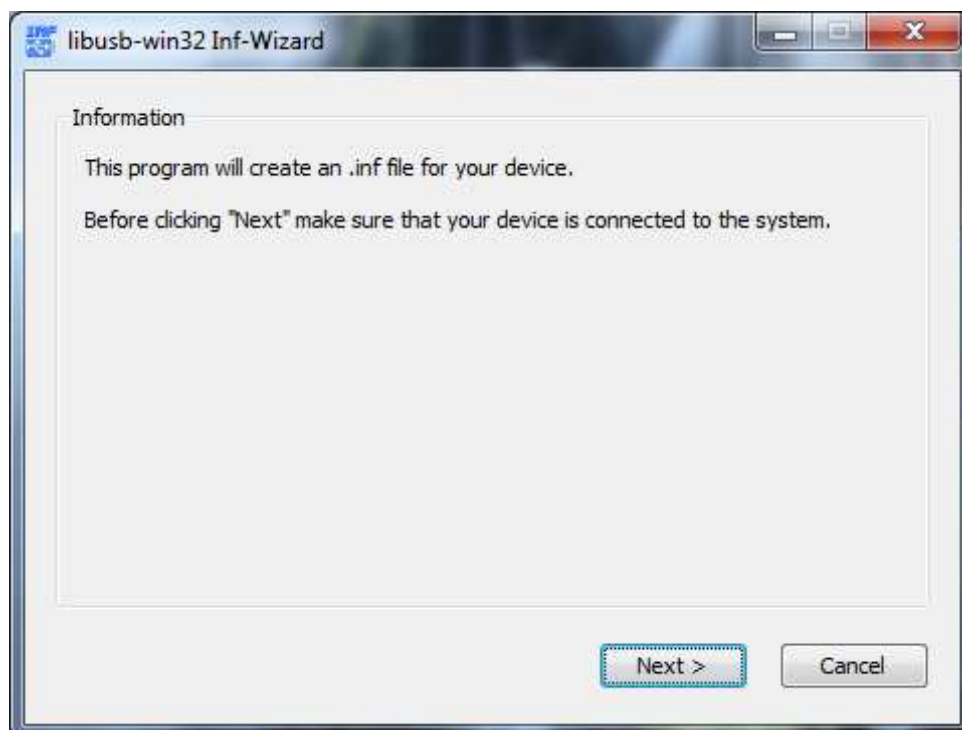

Figure 6. Inf-Wizard Startup Window
- (e) Click **Next**, as shown in Figure 6